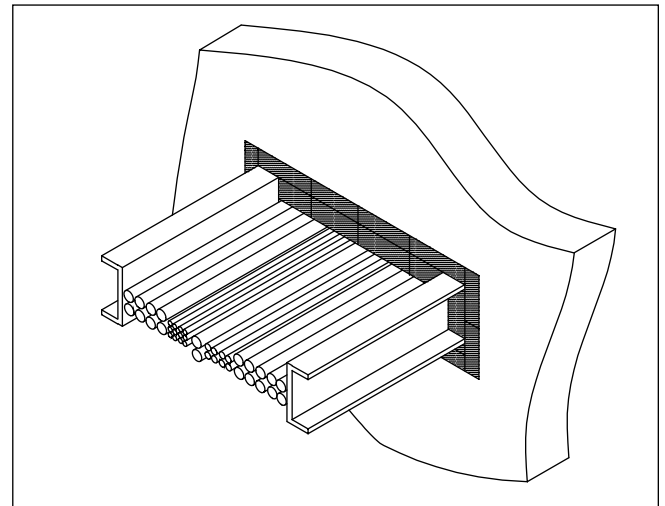

Figure 2
4. Repeat steps 2 and 3 until the penetration is completely full. See Figure 2.